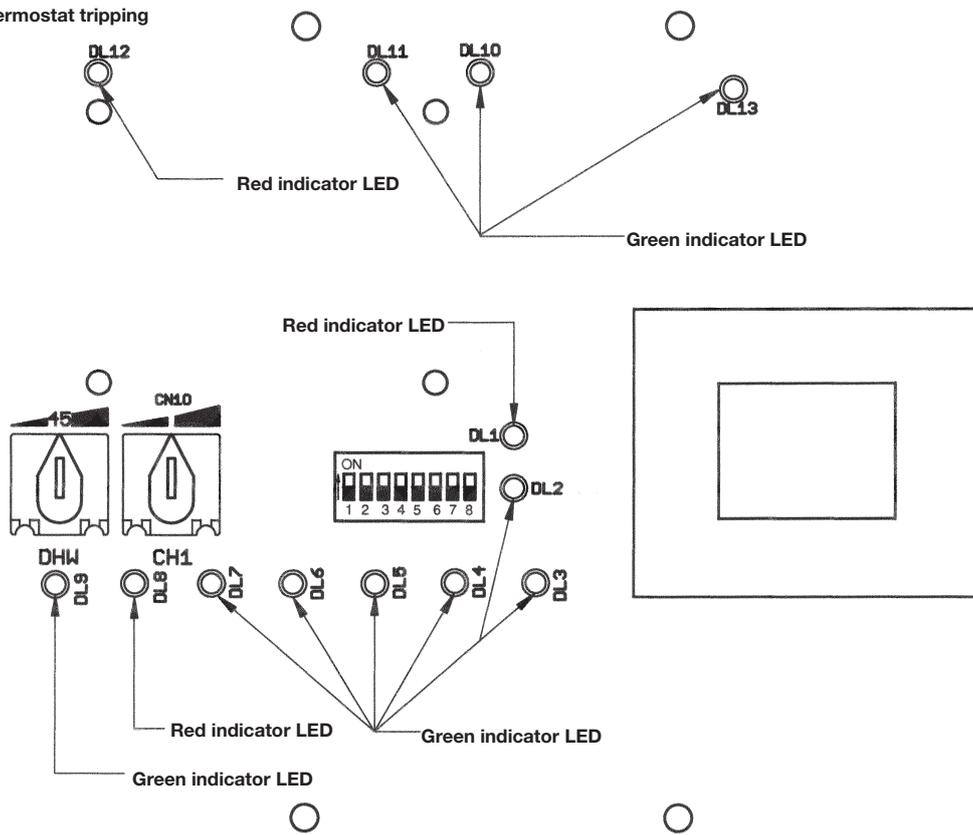

Figure 16: Electronic board signals (RSE-DE)
- For models with electronic board, check that the electronic board switches are in the correct position (see fig. 16).
If the safety thermostat trips due to a fault in the adjustment system, the heat interface unit stops for safety reasons and the red **LED DL12** (fig. 16) is switched "ON", on the electronic board.